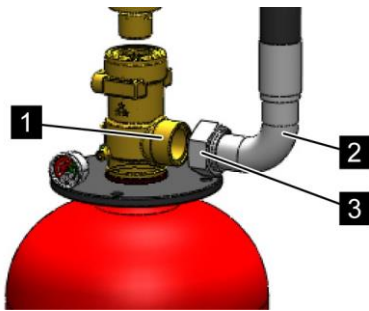

Fig. 191: Remove the hose
3. ➤ Unscrew the cap nut (Fig. 191/3) of the hose (Fig. 191/2) or connecting piece (for the version without hose) from the valve outlet (Fig. 191/1).
4. ➤ Attach the anti-recoil cap on the valve outlet (Fig. 191/1).